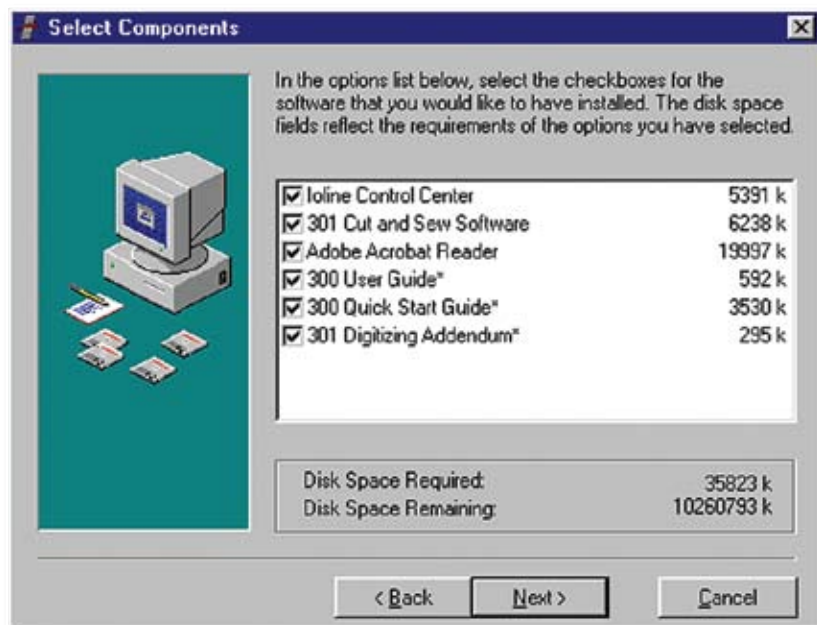

Figure 1. The 300 / 350HF System installation screen.
3. Follow the self-guided installation instructions to install the Ioline Control Center, 301 Software, Acrobat® Reader, and all manuals. See **Figure 1**.